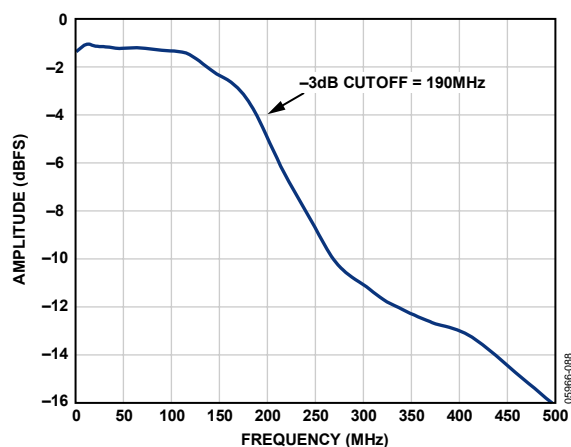

Figure 62. Evaluation Board Full Power Bandwidth
- **AIN:** The evaluation board is set up for a transformer-coupled analog input with optimum 50  $\Omega$  impedance matching out to 190 MHz (see Figure 62). For more bandwidth response, the differential capacitor across the analog inputs can be changed or removed. The common mode of the analog inputs is developed from the center tap of the transformer or AVDD\_DUT/2.